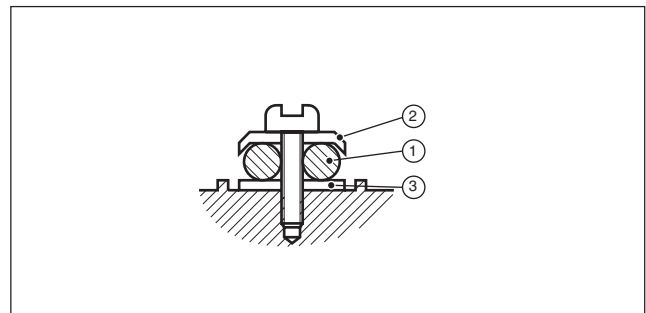

Fig.2.5.2 Earth wire connection
- * If required, mount earth wire (1) between top (2) and bottom (3) ring of earth wire connection (see figure 2.5.2).